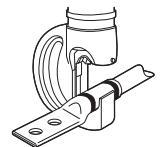

Figure 4
4. Fully insert cable into connector (Figure 4).